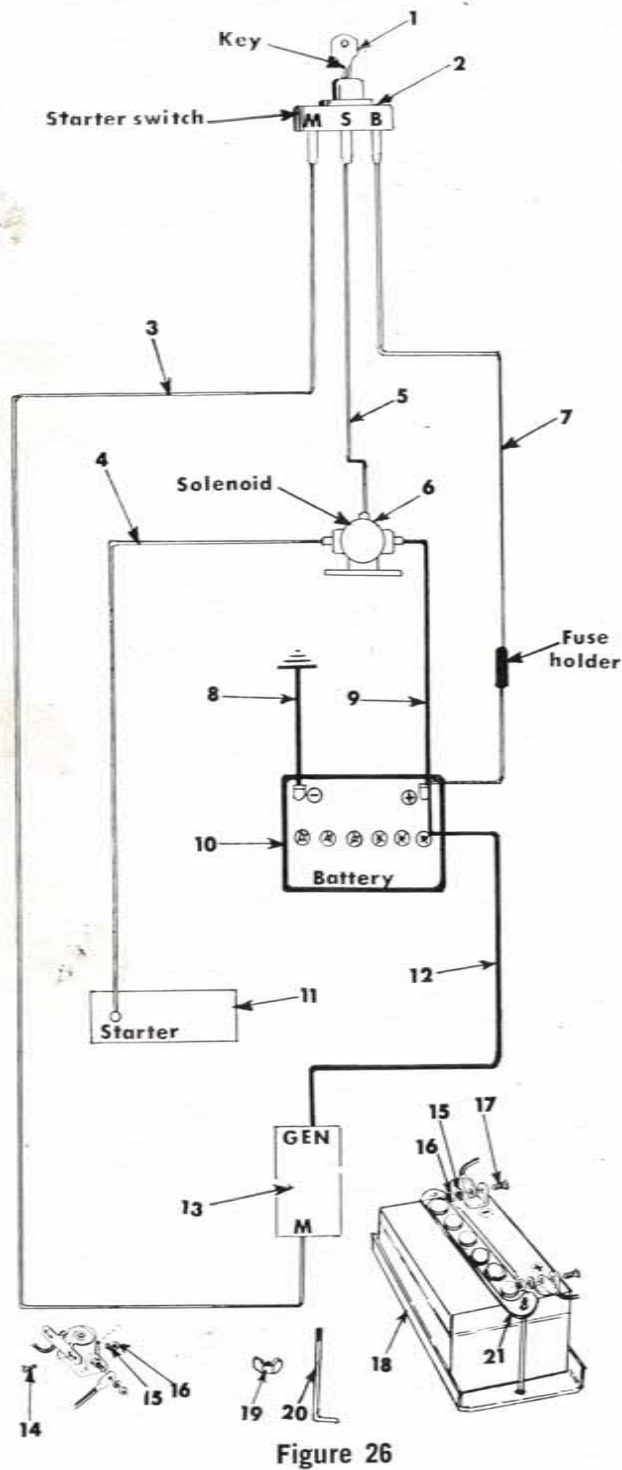

Figure 26
- Place the battery box (Ref. 18) Fig. 26 on frame.